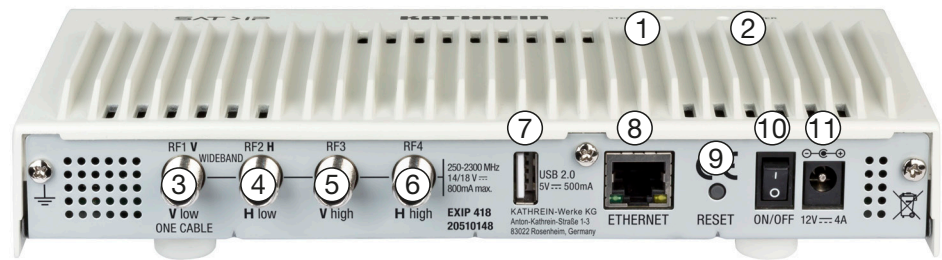

Fig. 3: EXIP 418: Back panel
1. You must connect the four input cables according to the voltage (Fig. 3) correctly.